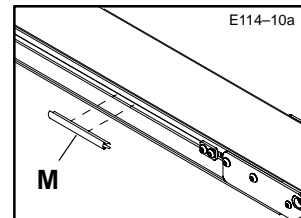

Figure 10: Closure Strip Mounting Details
- To contain a long run of wiring cable in the conveyor T-slot channel, use several short lengths of T-slot Cover Strips (N) (Figure 10). Or, to completely contain a long run of cable, purchase T-slot Cover Strip (645656P) at length required.